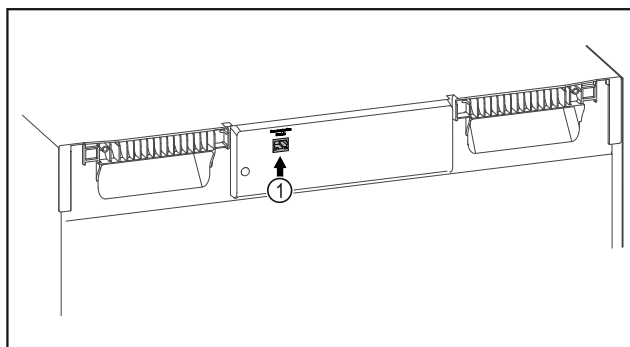

Fig. 114
- SmartModule Fig. 114 (1) is in use.